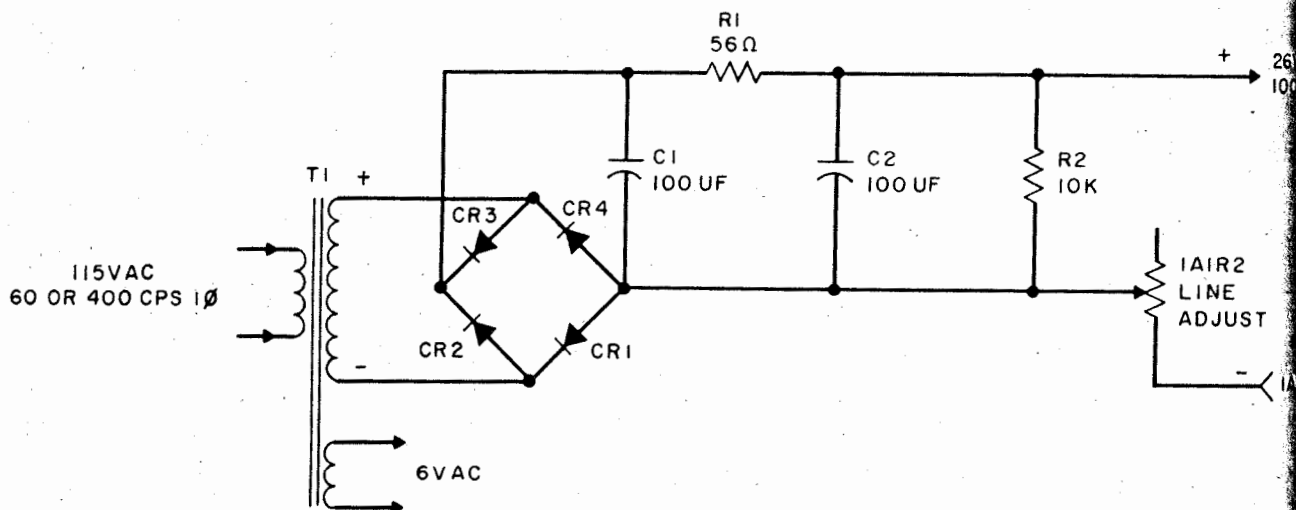

Figure 4-5. A-c Signal Line Power Supply 1A4, Simplified Schematic Diagram
b. A-C SIGNAL LINE POWER SUPPLY 1A4. — A-c signal line power supply 1A4 (figure 4-5) functions as a source of d-c signal line current for the operation of the local keyboard or as an external signal line current source for other equipment requiring currents not exceeding 100 milliamperes at 26 vdc and a floating ground. The input to the power supply is 115 vac, either 60 or 400 cps, single-phase. The power supply consists of a power transformer capable of operating on either 60 or 400 cps, a conventional full-wave bridge rectifier, and a resistance-capacitance filter network. With the exception of transformer T1, the components are mounted on a printed-circuit board. Power transformer T1 is a step-down transformer applying 33 vac across the rectifier formed by diodes CR1 through CR4. After filtering, the output voltage across bleeder resistor R2 is 26 vdc at 100 milliamperes of load current. The negative side of the power supply is returned through the outside signal loop (when used) through LINE ADJUST control 1A1R2. This control is used to adjust the signal line current.